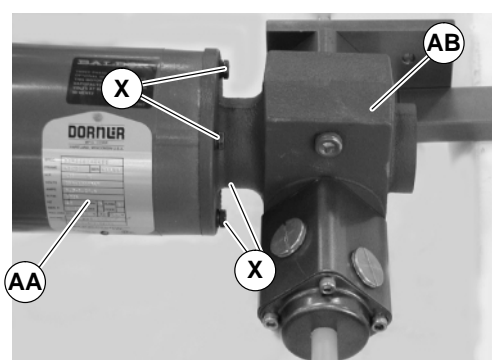

Figure 44
4. Remove four screws (X of Figure 44). Detach motor (AA) from gear reducer (AB). Retain motor output shaft key (Y of Figure 45).